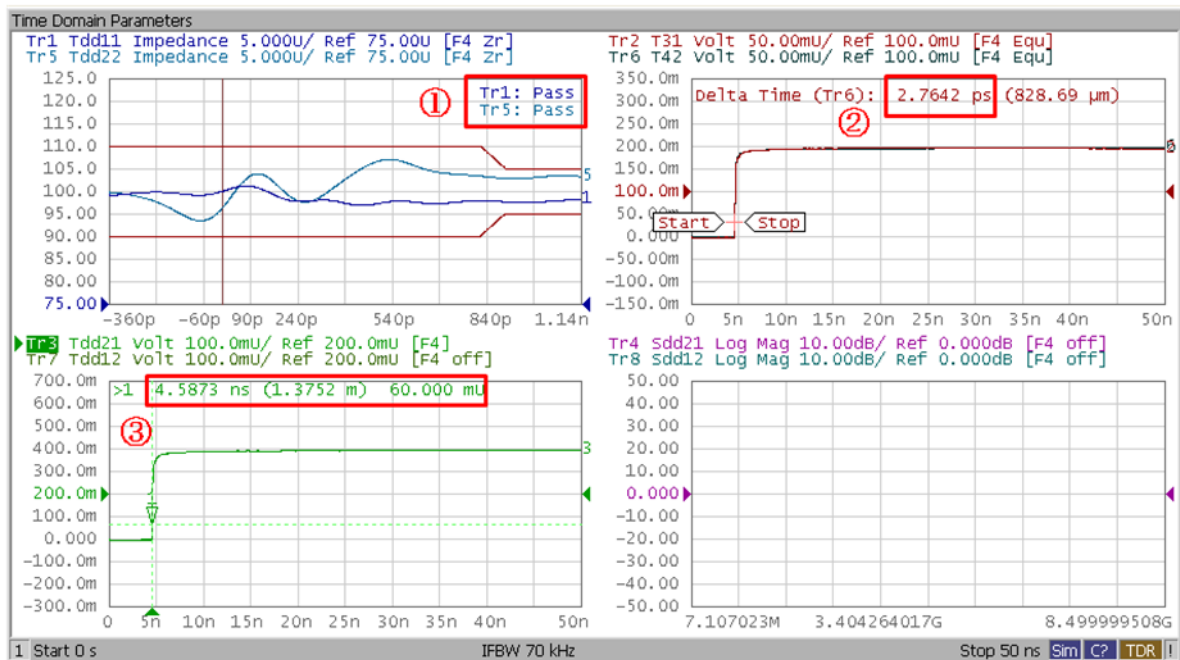

Figure 5-3: Time Domain Measurement Example
Read Pass/Fail signs on Trace 1 and Trace 5. (item 1 in Figure 5-3)
Read the delta time between Trace 2 and Trace 6. (item 2 in Figure 5-3).
6. Read the propagation delay (item 3 in Figure 5-3), and write it down.